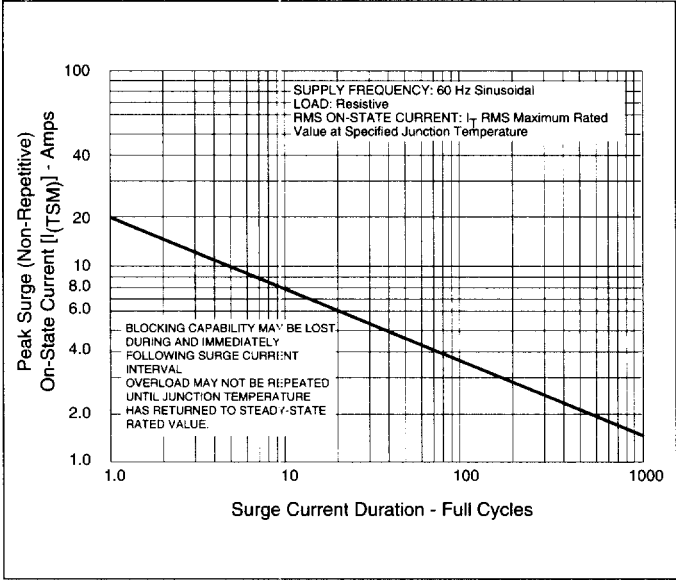

Figure 9.1 Peak Surge Current vs Surge Current Duration
- See Figure 9.1 for more than one full cycle rating.